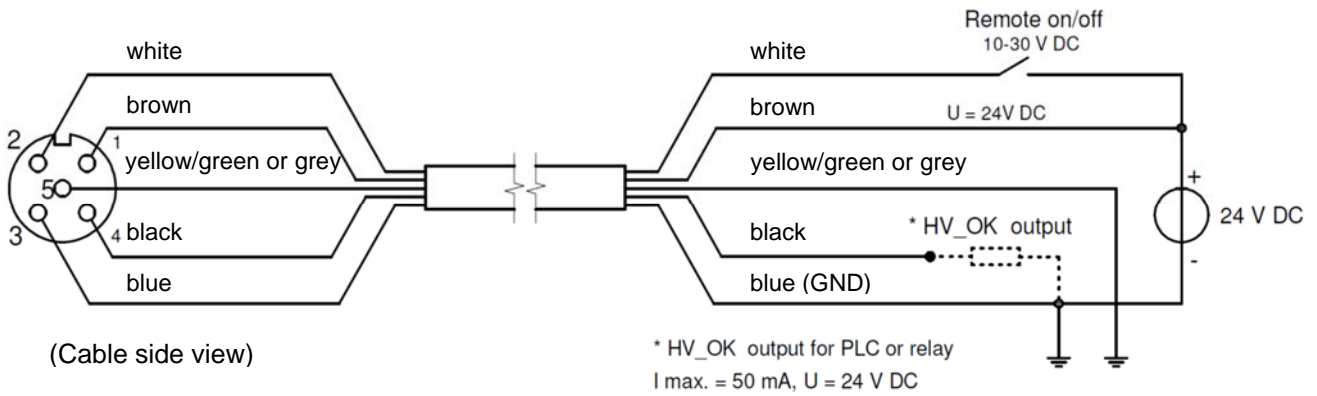

Figure 7: Wiring of the Performax IQ Easy and Performax IQ Easy Speed
- Connect the wiring as shown in figure 7.
If the bar is connected to a 24 V power supply without the Manager, the bar will not have IQ functionality. The bar can however be switched on/off remotely with the pin on the M12 connector and feedback will be provided on whether the high voltage is active on the corresponding pin of the M12 connector (see figure 7).